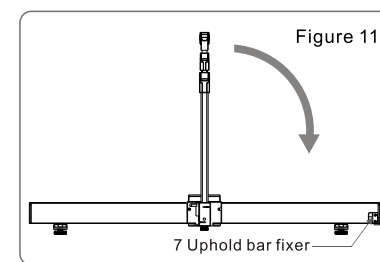

Figure 11
3. Fold down and lock uphold bar (8 ③) to its clip(7). Return the support foot to original position. (Figure 11)